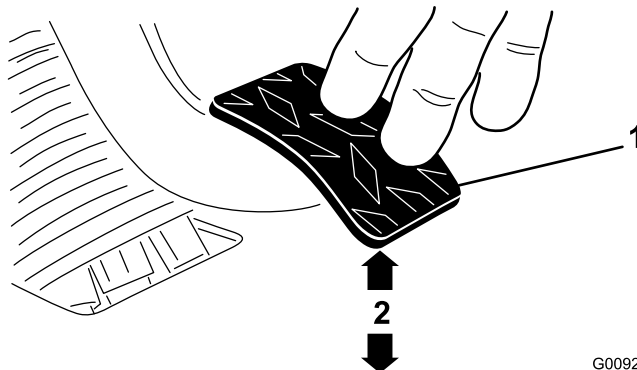

Figure 66
3. Adjust the jam nuts or ball joint until the back, rear edge of the clutch pedal is 9.5 ± 0.3 cm (3.75 ± 0.12 inch) from the top of the floor plate diamond pattern, when an 1.8 kg (4 lb) force is applied to the pedal (Figure 66).